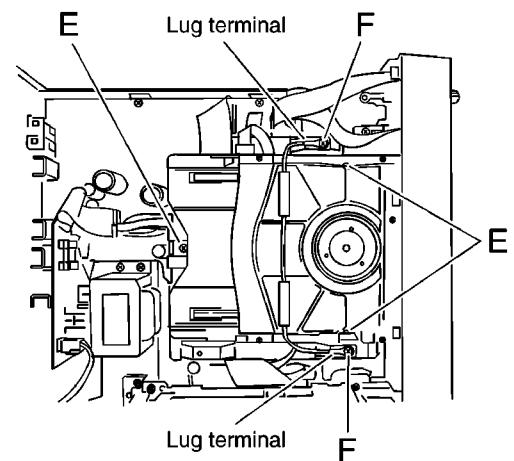

Fig.5
■ Removing the CD recording mechanism unit (see Fig.5~7)